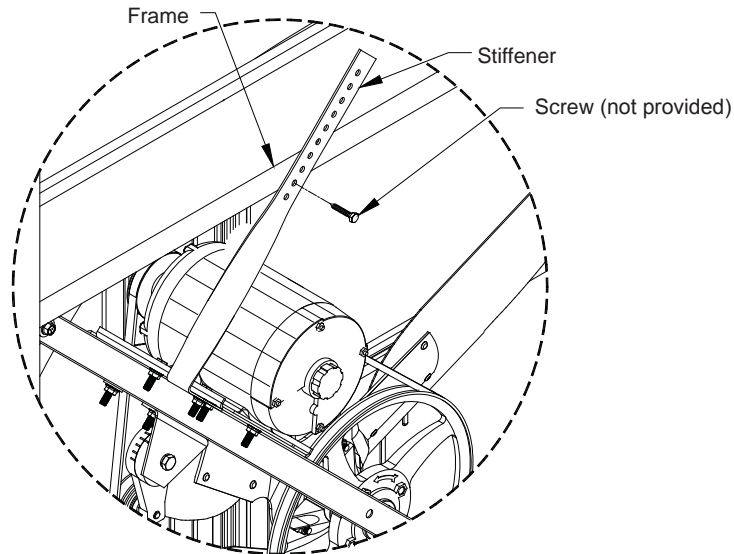

Figure 21B
Using channel locks and/or a hammer twist the motor bracket stiffener so that the holes in the bracket lay flat against the framing. Then attach bracket to framing using (1) proper Screw (Not Provided). See Figure 21B.